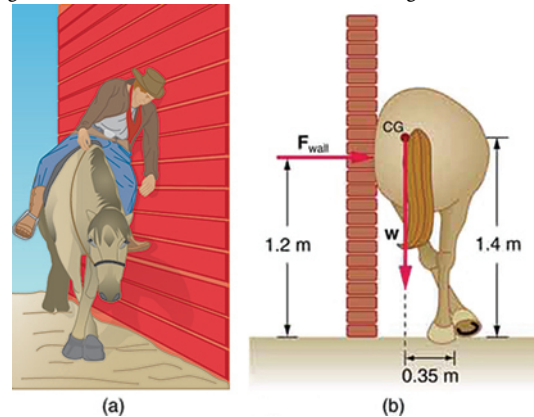

Figure 9.30
6. Suppose a horse leans against a wall as in Figure 9.30. Calculate the force exerted on the wall assuming that force is horizontal while using the data in the schematic representation of the situation. Note that the force exerted on the wall is equal in magnitude and opposite in direction to the force exerted on the horse, keeping it in equilibrium. The total mass of the horse and rider is 500 kg. Take the data to be accurate to three digits.
- (a) Calculate the magnitude and direction of the force on each foot of the horse in Figure 9.30 (two are on the ground), assuming the center of mass of the horse is midway between the feet. The total mass of the horse and rider is 500 kg. (b) What is the minimum coefficient of friction between the hooves and ground? Note that the force exerted by the wall is horizontal.